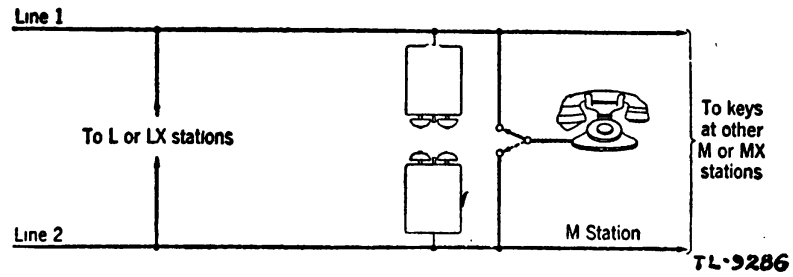

Figure 101. Wiring plan 203.
a. **PICKUP PLANS.** The *M* or *MX* stations of the plans illustrated in figures 101, 102, 103, and 104 have a key which permits the stations to pick up any one of the incoming lines.